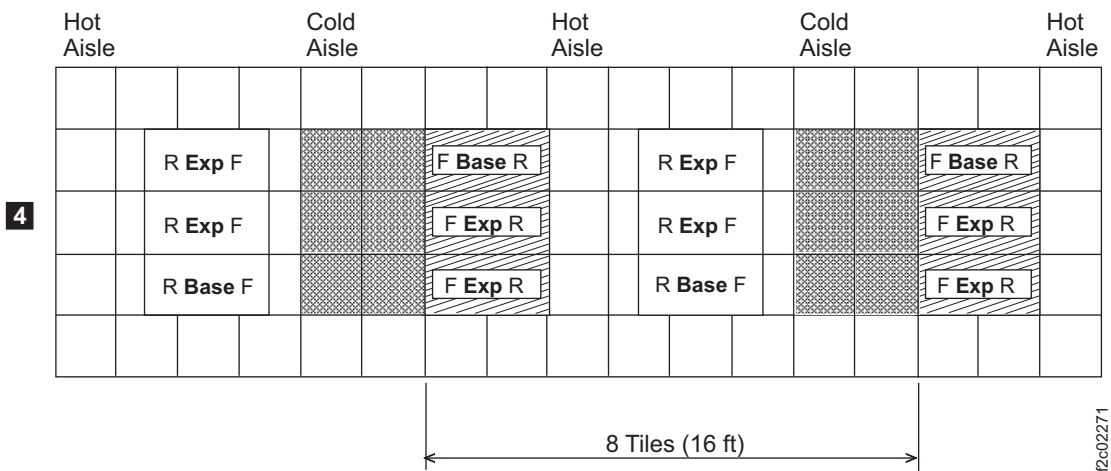

Figure 13. Typical rack and perforated tile locations for hot and cold aisles
- a. For stand-alone base frames, install two fully perforated tiles in front of each base frame, as shown in Figure 13 on page 117 in the single-machine examples ( **1** and **2** in the figure).
- b. For a row of storage systems, install a row of perforated tiles in front of the storage systems as shown in Figure 13 on page 117 ( **3** in the figure).
- c. For groupings of storage systems, where a hot aisle/cold aisle layout is used, use a cold aisle row of perforated tiles in front of all storage systems. An example of a possible minimal arrangement is shown in Figure 13 on page 117 ( **4** in the figure).
**Note:** Keep in mind that the example represented in Figure 13 on page 117 meets service clearance requirements. However, floor loading requirements might require a wider hot aisle to provide up to 30 inches of non-overlapping clearance (for total of 60 inches between the rear side of the frames on either side of the aisle.)